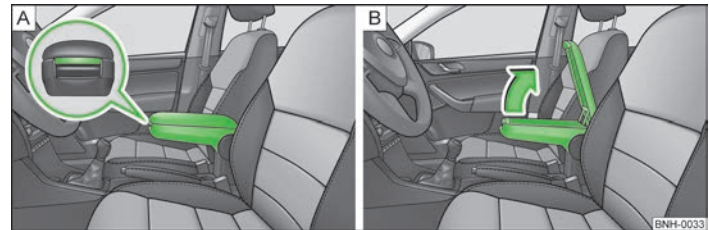

Fig. 33 Armrest/open storage compartment
- Press the button at the front of the armrest » Fig. 33 - **A**.
- Lift the lid of the storage box » Fig. 33 - **B**. ■